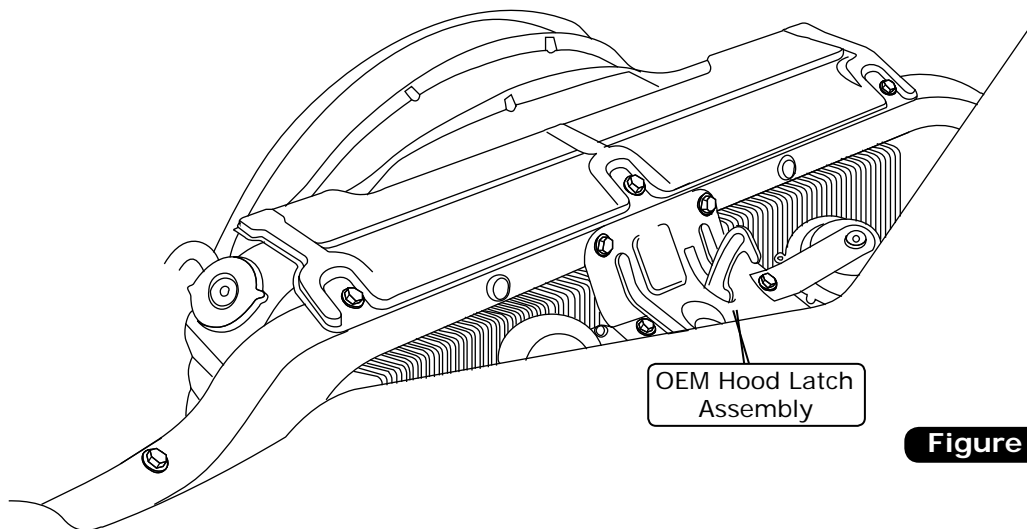

Figure 1
4. Remove the OEM hood latch assembly (See Figure 1, below).